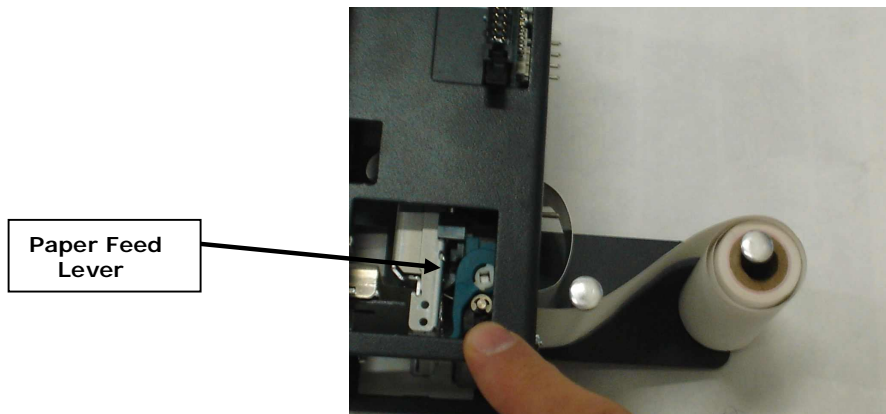

Figure P2: AC7074 Printer – Side View, with Paper
1. If there is paper remaining on the previous roll, it must be removed before proceeding. Move the “Paper Feed Lever” from the DOWN to the UP position (refer to Figure P2), and then pull out the remaining paper from the rear of the printer and discard the roll.